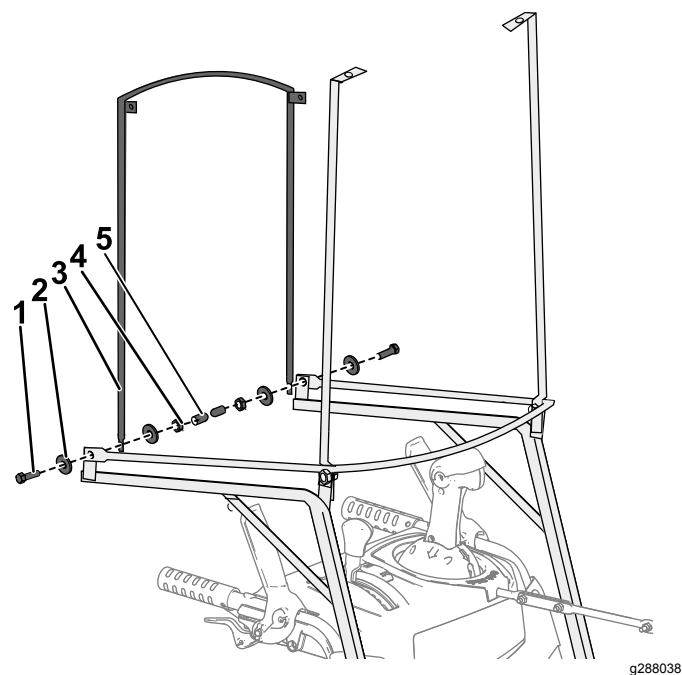

Figure 3
4. Install the rear frame onto the mounting brackets as shown in Figure 3.